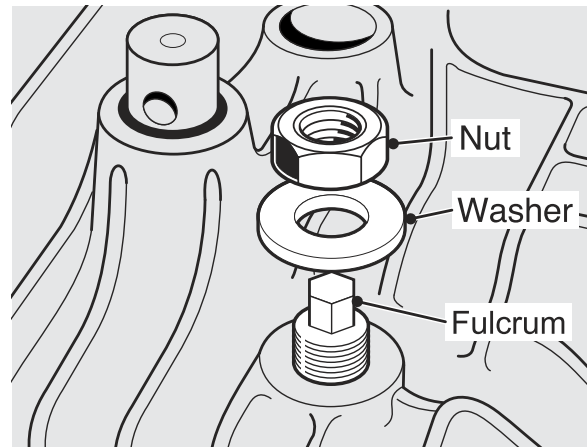

Fig. 40, Fulcrum Removal, from top of Upper Case
- Remove the Nut (17mm) and Washer from the Fulcrum (Neutral Adjust Eccentric). (Fig. 40)